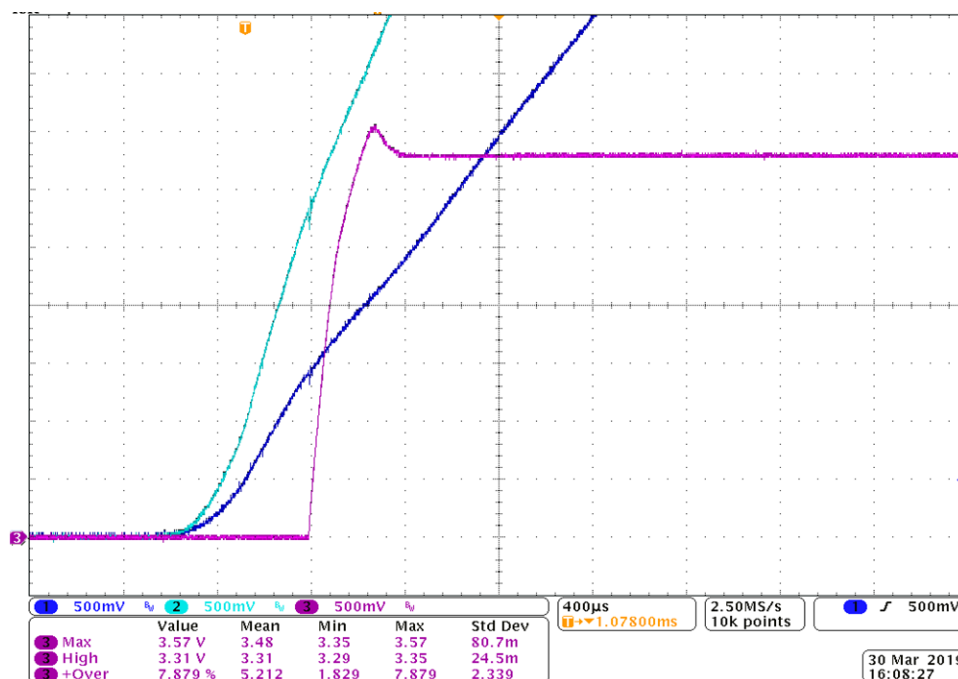
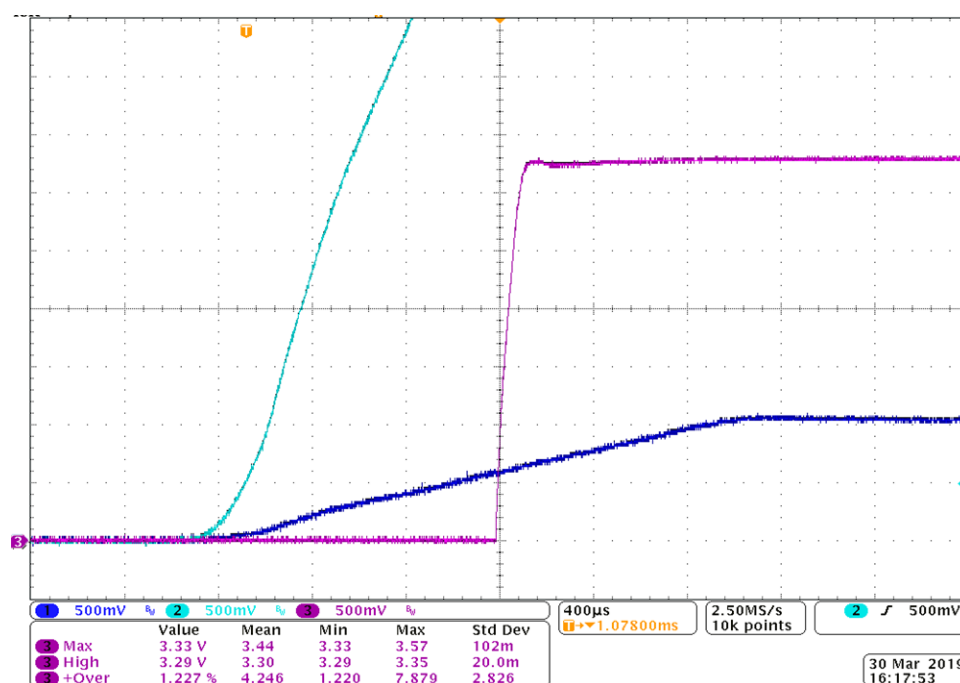

Figure 10. No Sequence With Overshoot
Figure 11. Add Sequence Without Overshoot
- Sequence the V_{IN} and V_{EN} signals to let the V_{IN} reach the required value before the LDO is enabled. The comparison is displayed in Figure 10 and Figure 11 (Green: V_{IN} ; Red: V_{OUT} ; Blue: V_{EN}). The V_{EN} signal is created using a resistor divider from the V_{IN} . $R_1 = 10\text{ K}$ is close to the V_{IN} , R_2 is close to the GND. In Figure 10 $R_2 = 10\text{ k}\Omega$, and in Figure 11 $R_2 = 1\text{ k}\Omega$.